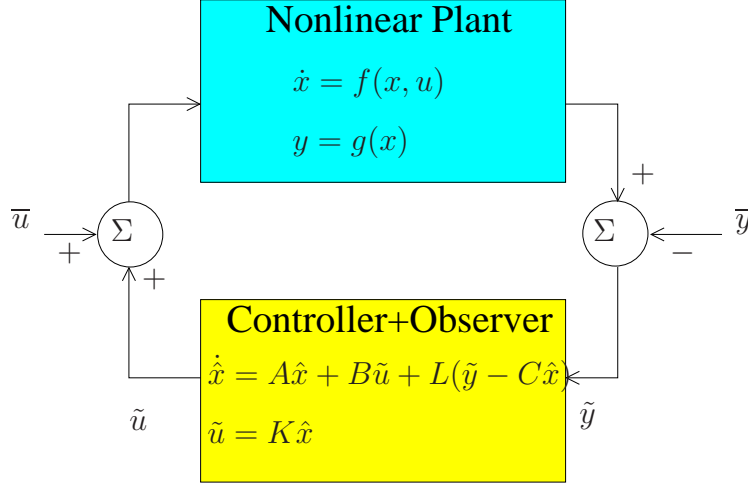

Figure 1: Block diagram of closed-loop nonlinear system
- (e) Before proceeding to add your controller and observer to the nonlinear system to obtain a closed-loop system, recall that the controller and observer are designed based on the “twiddle” variables \tilde{x} , \tilde{z} , and \tilde{V} . When you connect back to the nonlinear model, you must “un-twiddle” the variables by setting $x = \tilde{x} + \bar{x}$, $z = \tilde{z} + \bar{z}$, and $V = \tilde{V} + \bar{V}$. An example is shown in Figure 1. In particular, you can see that \hat{x} is an estimate of \tilde{x} , not x .